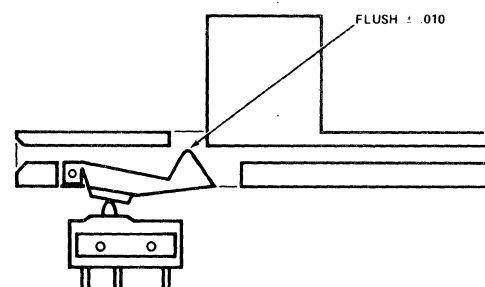

FIGURE 13. WRITE PROTECT SWITCH ADJUSTMENT
a. Adjust the switch so that the actuator will just transfer the switch when its point is flush $\pm .010$ within the top of the groove in the guide rail. Reference figure 13.